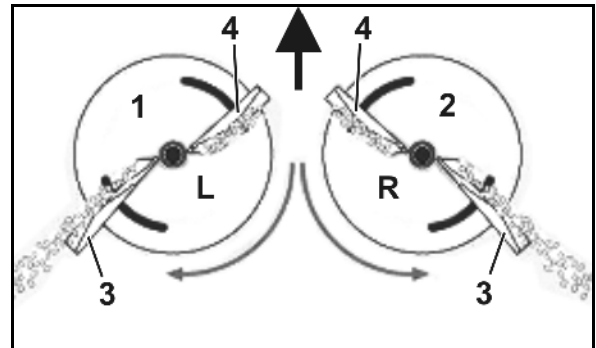

Fig. 32
- Left spreader disc (Fig. 32/1) with **L** mark.
- Right spreader disc (Fig. 32/2) with **R** mark.
- **Long** (Fig. 32/3) - Adjustment scale with values from 35 to 55.
- **Short** (Fig. 32/4) - Adjustment scale with values from 5 to 28.